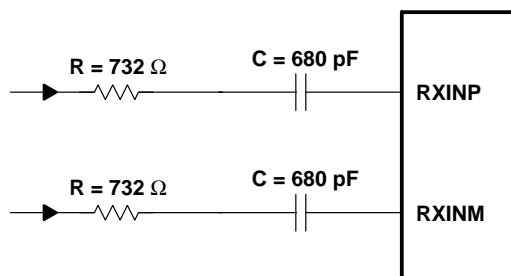

Figure 1. External Components for RXINP and RXINM
External components are required to implement CPGA function. Suggested components and connection are shown in the Figure 1.
The configuration of Figure 1 gives the following setting for CPGA: -9dB to 9dB in 6 dB/steps and 9 dB to 30 dB in 3 dB/steps. The CPGA gain range is controlled by external resistors ($732\ \Omega$ shown in Figure 1). The cut-off frequency of the HPF is controlled by external resistors (R) and capacitors (C). To keep the cutoff frequency of the first HPF unchanged, $R \times C$ need to be constant.